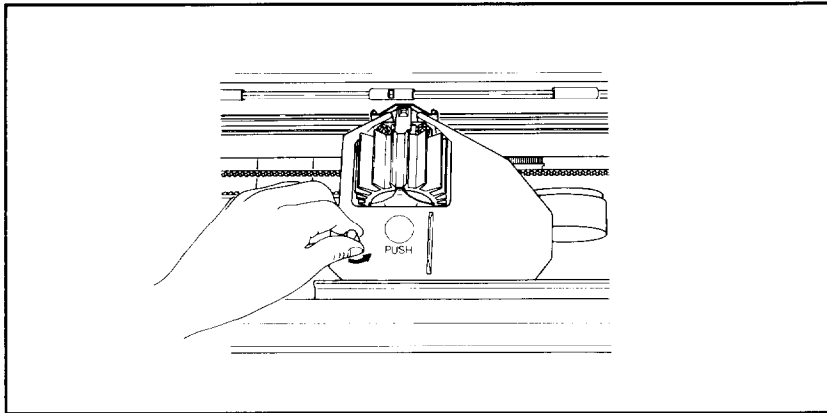

Figure 1-9. Ribbon operation
6. Now give the take-up knob several turns to straighten out the ribbon so that it is not wrinkled or twisted. The ribbon should move freely between the print head and the ribbon guide (Figure 1-9).